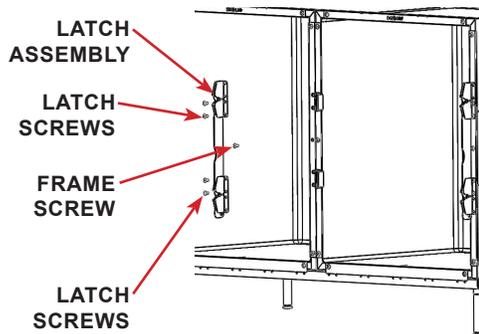

FIGURE 2.28 - Latch Removal
- STEP 18:** Remove the screws (4 ea) holding the latch assembly and the center frame screw from the previous set cage. See FIGURE 2.28